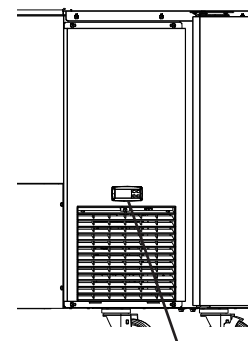

Fig. 41
- 6) Confirm the cabinet control setpoint is 35°F (1.7°C) on the cabinet control module located on the front panel. See Fig. 41. To confirm the setpoint, press the up arrow key for 2 seconds and release. The setpoint flashes. If not set to 35°F (1.7°C), see "II.C.2 Cabinet Temperature Control" below. **NOTICE! Cabinet temperature control does not control compressor operation. Only cabinet fan motor operation. For compressor operation control see "II.C. Rail Control Dial Adjustment."**